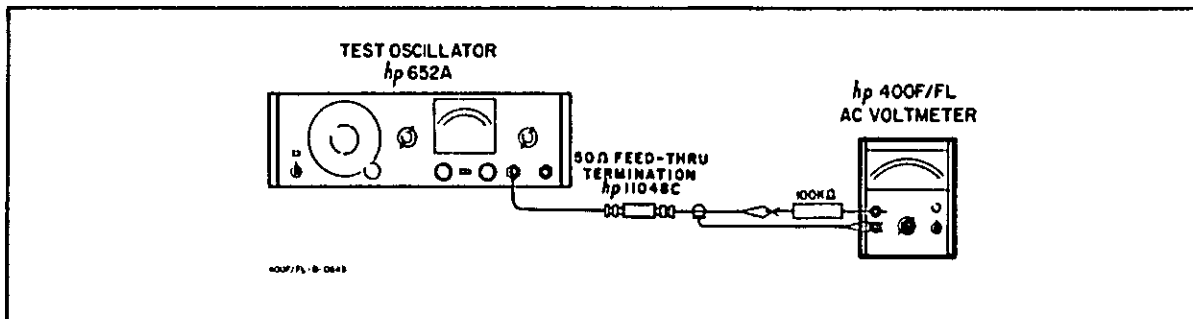

Figure 5-3. Input Impedance Test Setup.
- d. Connect a 100 k Ω resistor between test oscillator and 400F/FL as shown in Figure 5-3.
a. Connect test oscillator and a 100 kΩ resistor to 400F/FL as shown in Figure 5-3. Connect the resistor lead directly to the GR connector.